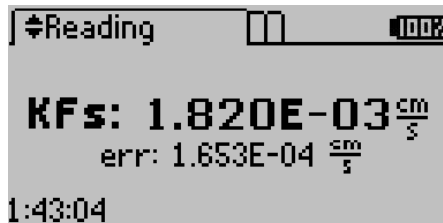

Figure 18 Results screen
- **Results Screen.** After a test is complete, the Results screen replaces the Status screen. It shows the resulting K_f of the test (Figure 18). The error (err) value also appears on the Results screen. The err is the standard error of the K_f reading and represents the amount of noise in the measurement. Press **UP** and **DOWN** to change Reading screens or press the **POWER/MENU** button to navigate to the Configuration tab.